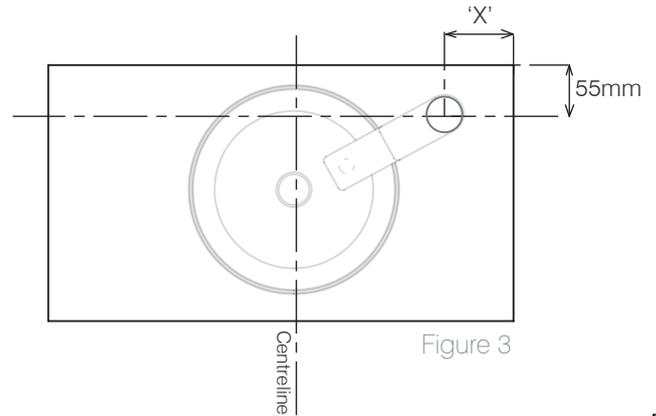

Figure 3
2. Place selected countertop basin in centre of unit, and place tap on worktop without fitting. Move basin into position on centreline ensuring throw of tap is adequate for water to reach bowl - Shown on figure 3 as 'X'